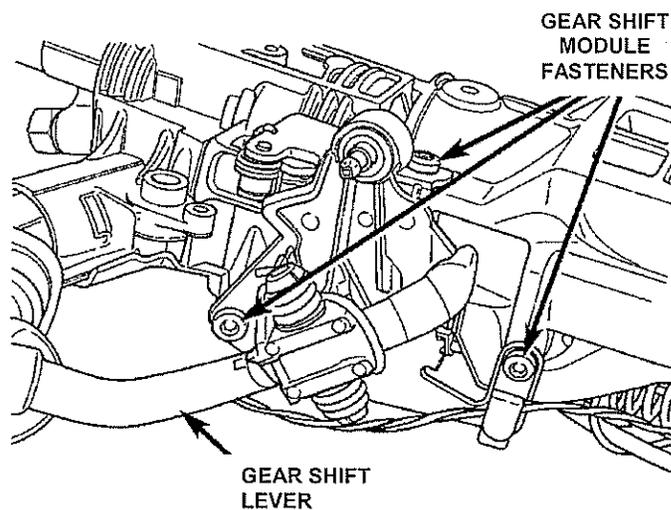

Figure 1
8. Remove the four (4) steering column mounting nuts and lower the column.
11. Using a male 25T Torx® driver, remove the three fasteners that retain the gear shift module to the steering column (Figure 1).
25. Install the three (3) shift module assembly mounting screws and tighten them to 105 in. lbs. (12 N·m) (Figure 1).